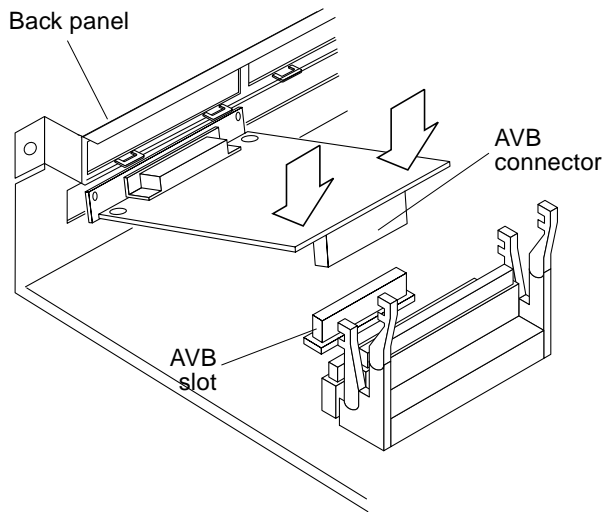

FIGURE 11-35 Installing the Auxiliary Video Board
2. **Install the AVB as follows (FIGURE 11-35):**